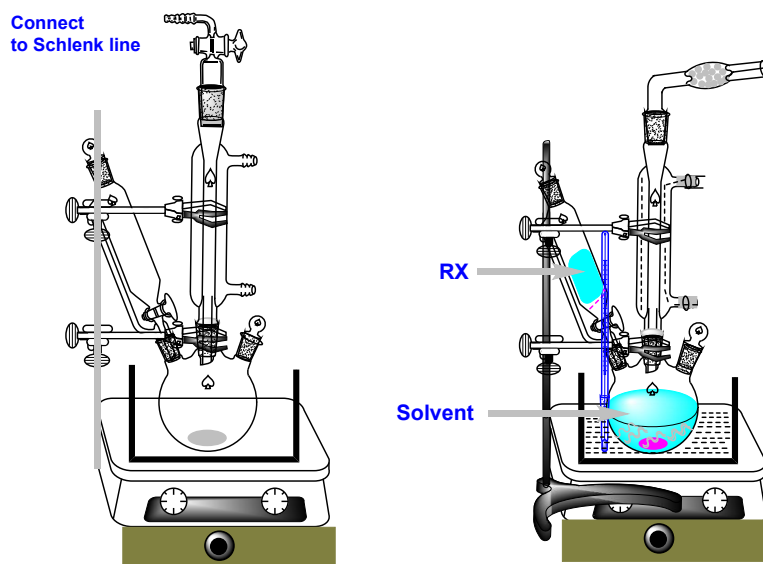

Figure 4: Reaction Set-up for a Grignard Reaction
- Assemble glassware as shown in Figure 4. Select a vessel or a flask that is sufficient to hold the total volume of the solvent and substrate.